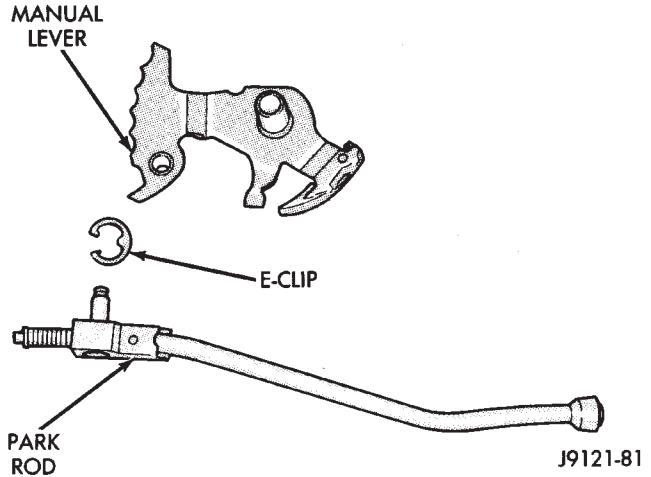

Fig. 67 Park Rod
(39) If necessary, insert park rod end into manual lever and install E-clip (Fig. 67).